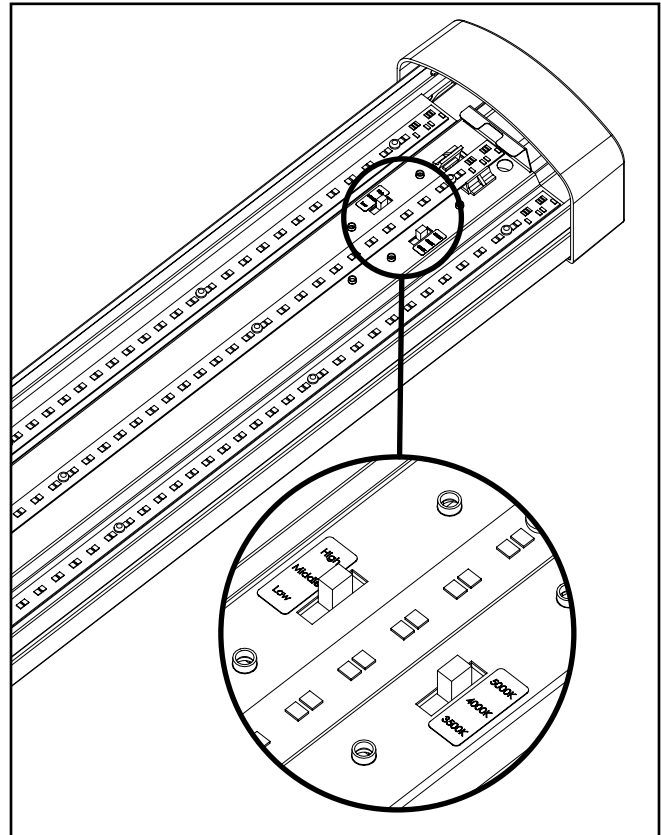

Figure 12.
- Two switches are located at the top of the gear tray (Figure 12). One for CCT and the other for lumens. CCT and lumen options must be selected prior to lens installation.